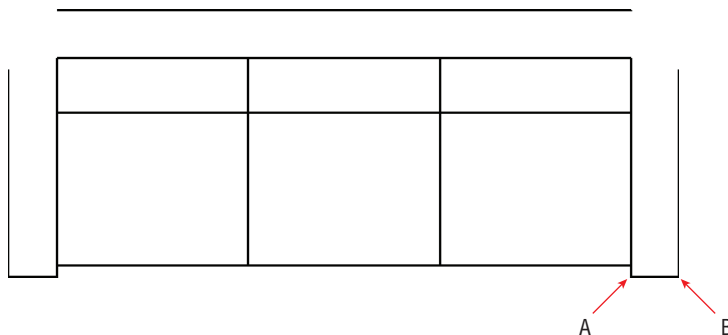

FIGURE 9.5 Offsetting the back of the sofa a distance equal to the thickness of the armrests
11. Click the Offset tool on the Modify panel. Click points A and B in Figure 9.5 to set the offset distance. Select the back line of the sofa, and then click above it to offset another line.